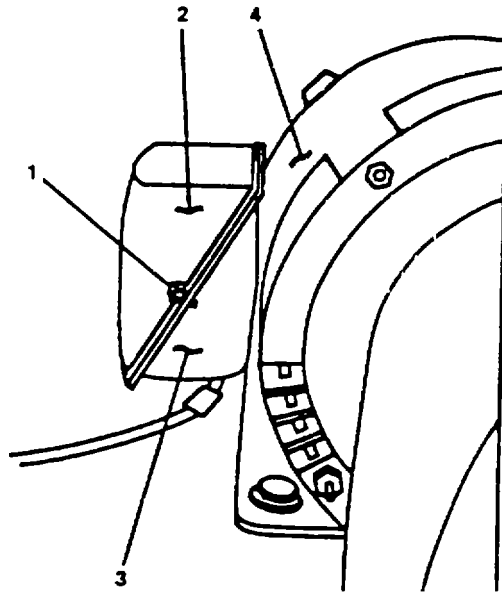

Figure 2-137. Electrical Junction Box.
- a. Remove screws (1, Figure 2-137) holding electrical junction box cover (2). Remove cover.